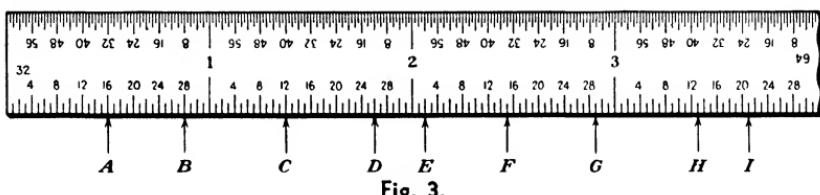

Fig. 3.
- 4.** See how quickly you can name each of the graduations indicated by letters *A*, *B*, *C*, etc., in Fig. 3.